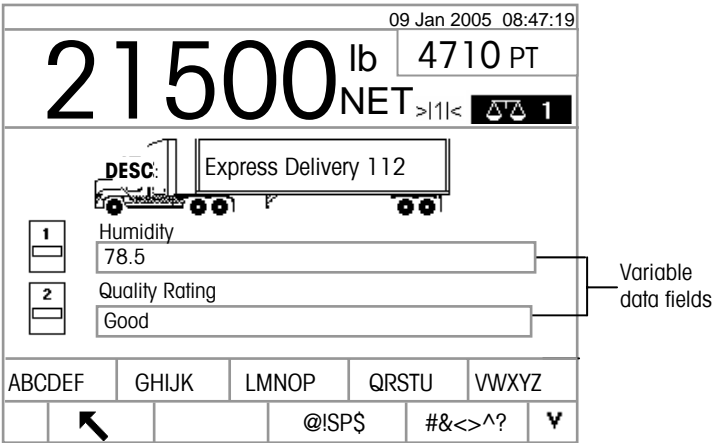

Figure 2-14: Variable Data Entry Screen
- 6. If variable data entry has been enabled, variable data fields display. Variable data field names are enabled in the application setup. For example, in Figure 2-14 humidity is enabled as Variable 1 and quality is enabled as Variable 2. Use the alpha keys and the numeric keypad to enter variable data.